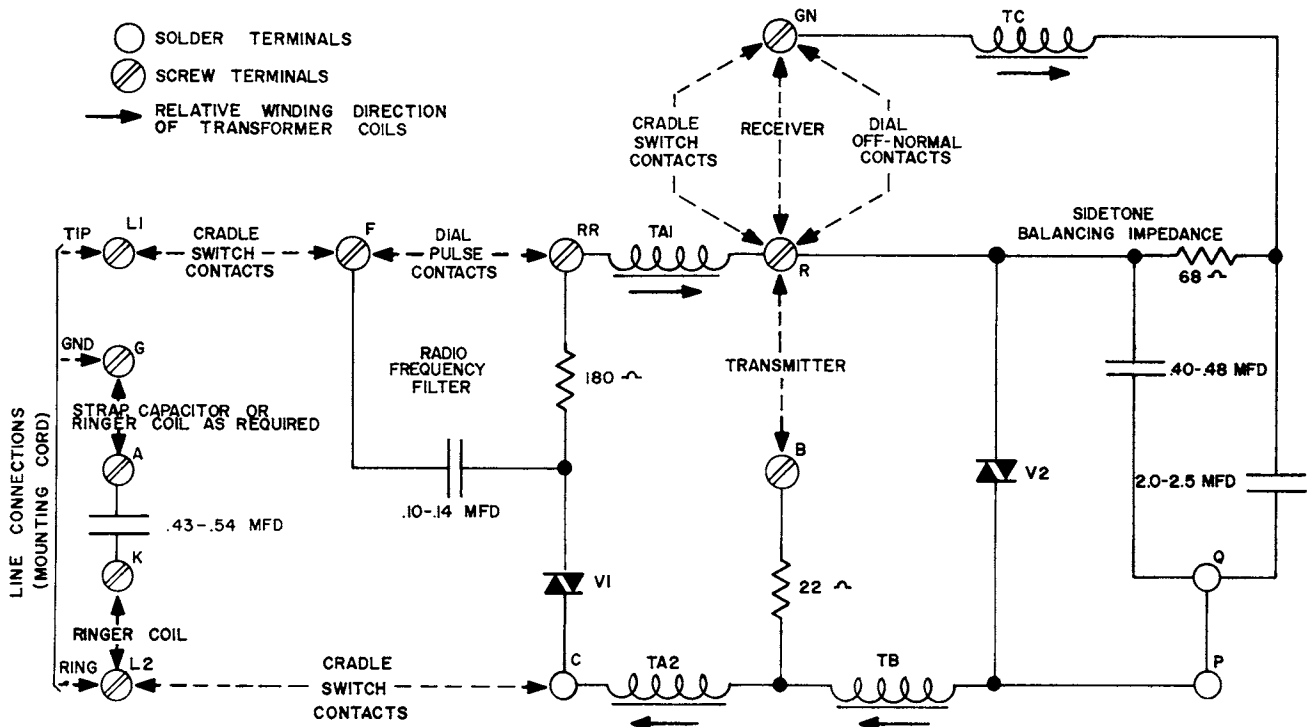

Fig. 2-1 CIRCUIT DIAGRAM
2.1 The circuit is shown in Fig. 2-1; the dashed lines show typical connections to other components of a complete telephone instrument. The features of the circuit are briefly discussed in the following paragraphs.
The direction of winding of the four coils of the transformer is indicated by arrows in Fig. 2-1. Received speech currents pass via windings TA1, TB and TA2, each of which produces an additive voltage in winding TC. The received currents also produce a voltage across the 68 ohms resistor that opposes and is almost equal to that produced by the induced voltages in winding TC. There is, therefore, very little power loss in the resistor and varistor, maximum power in the receiver. The low impedance of the transmitter is matched to the loop by the turns ratio of winding TB to windings TA1 and TA2.
3.1 Thorough testing of the network assembly can only be performed with elaborate test equipment. An adequate check on performance, for maintenance purposes, is to compare a suspected unit with a known good unit by substitution. Resistance and capacitance checks can be carried out between many of the terminals, as can be seen from Fig. 2-1. Note that the soldered connection between terminals P and Q can be opened to permit testing of the two network capacitors. Fig. 3-1 shows the layout of the terminal board of the assembly.